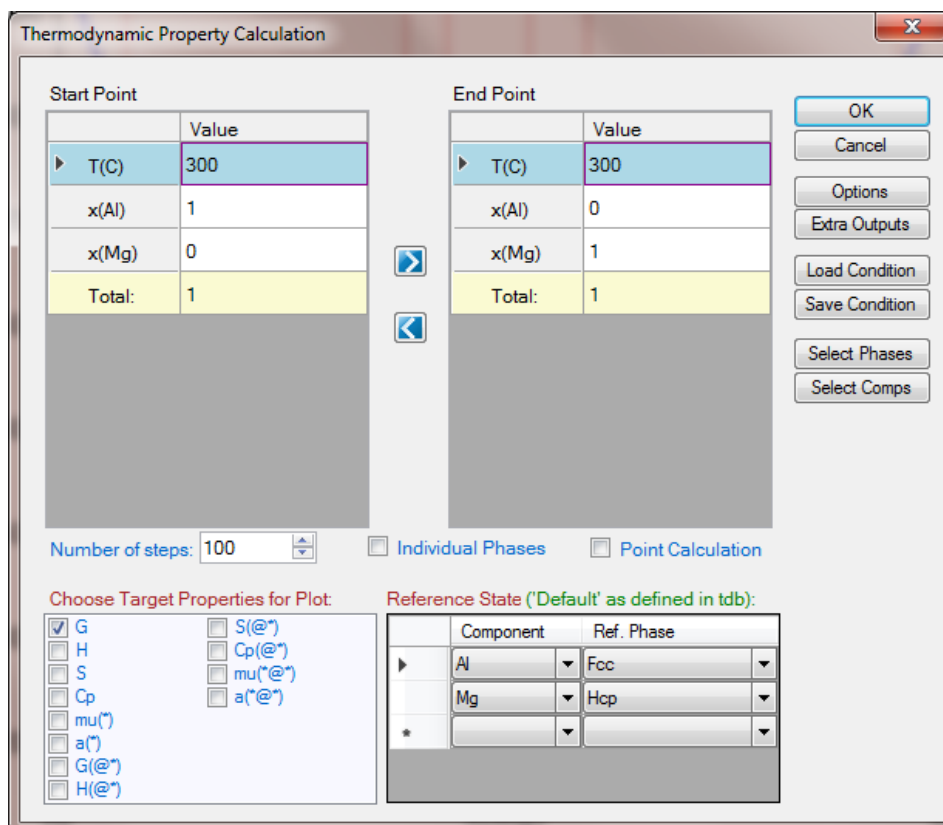
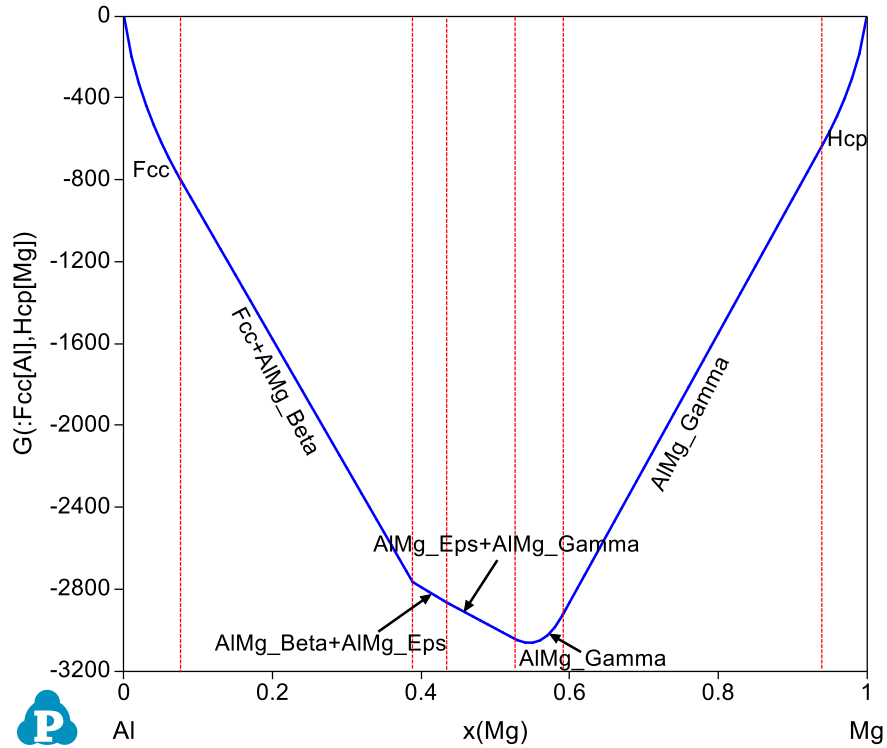

Figure 1.9.2: Calculation of the Gibbs energy for individual phases or the system from “Property” calculation
Figure 1.9.4: Calculated Gibbs energy of the system
- Set Calculation Condition as shown in Figure 1.9.2. The property selected is G, and the reference states are set as Fcc for Al and Hcp for Mg, the Gibbs energy of the system (stable phases in each composition range) will be calculated as shown by Figure 1.9.4;
- Figure 1.9.4 shows the Gibbs energy of the system as a function of $x(\text{Mg})$, i.e., the Gibbs energy at each composition represents the Gibbs energy of the stable phase(s) at that composition;